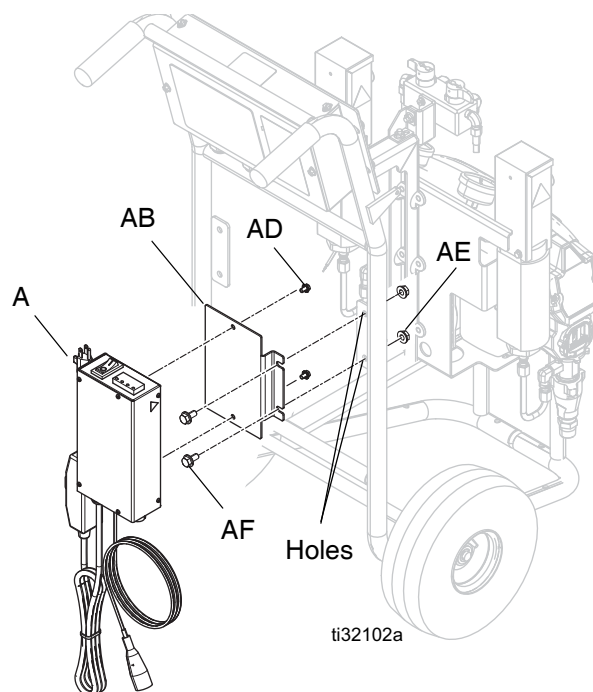

FIG. 11: Mount Control Module on E-10 OEM
2. Attach adapter bracket (AB) to the control box (A). Torque fasteners (AD) to 150 in-lb (17 N•m).
3. **E-10 and E-10hp:** Loosen nuts (AE) to create a 1/8 in. (3.2 mm) gap. Do not remove nuts.
E-10 OEM: Using the supplied fasteners (AF) and nuts (AE), insert fasteners through holes (see FIG. 11). Begin to tighten the nuts until a 1/8 in. (3.2 mm) gap is left between the nuts and the cart frame.
4. Install the control module (A) by inserting the bracket (AB) into the gap between the nuts and the cart frame.
5. Tighten the nuts (AE) to secure the control module to the proportioner frame. Torque nuts to 150 in-lb (17 N•m).